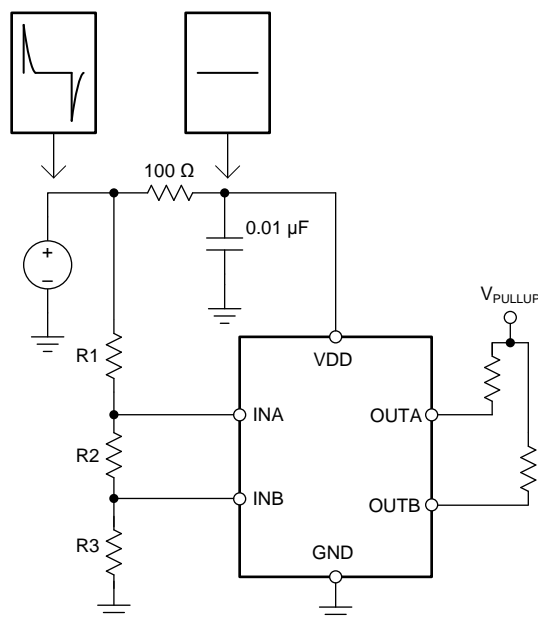

Figure 26. Using an RC Filter to Remove High-Frequency Disturbances on VDD
The TLV6710 has a 40-V absolute maximum rating on the VDD pin, with a recommended operating condition of 36 V. If the voltage supply that is providing power to VDD is susceptible to any large voltage transient that may exceed 40 V, or if the supply exhibits high voltage slew rates greater than 1 V/ μ s, take additional precautions. Place an RC filter between the supply and VDD to filter any high-frequency transient surges on the VDD pin. A 100- Ω resistor and 0.01- μ F capacitor is required in these cases, as shown in Figure 26.
- Avoid using long traces for the VDD supply node. The VDD capacitor (C_{VDD}), along with parasitic inductance from the supply to the capacitor, may form an LC tank and create ringing with peak voltages above the maximum VDD voltage. If this is unavoidable, see Figure 26 for an example of filtering VDD.